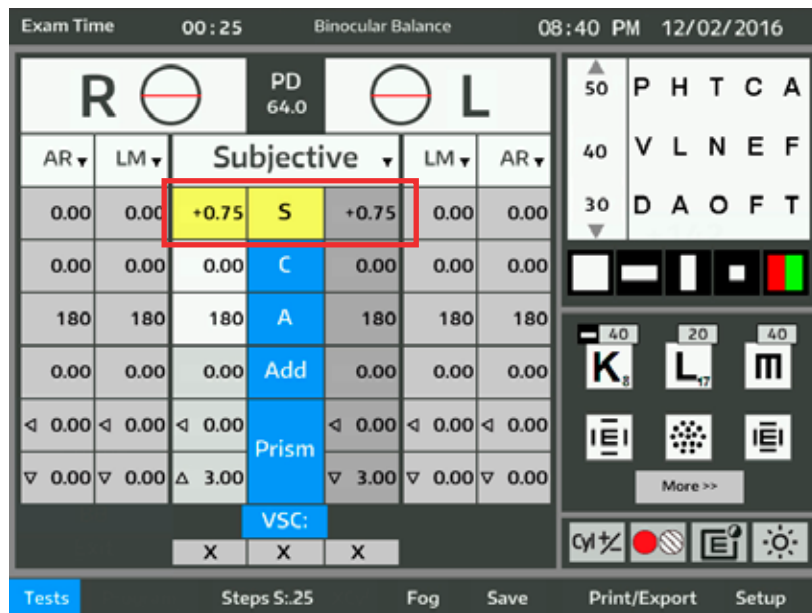

Figure IU-27 Binocular Balance with Prisms
2. Select an appropriate test chart of a single vertical line of optotypes or a single optotype. The default chart selected for the phoria test is presented to the patient. If no default chart was selected, refer to the **Selecting Default Charts** section of this manual. Refer to **Figure IU-27**.
1. Touch the center S, C, or A icons so both apertures (right and left) open to measure. Refer to Figure IU-27